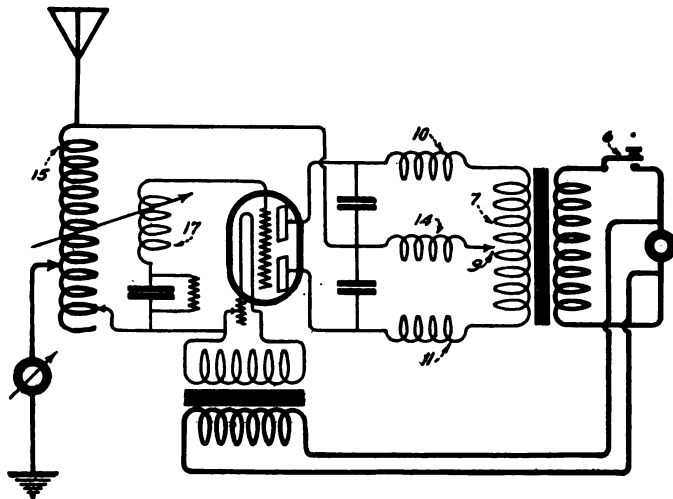

Figure 3—Circuit using a modified tube
Figure 3 shows a circuit in which a modified tube is used. A grid common to both anodes is now inserted and controls the electric current flowing to the operative anode. The figure illustrates a continuous wave transmitter which employs alternating current and a single tube as described. The rectified direct current passes through 15 to which a coil 17 is coupled. The result is that the tube will generate almost pure continuous waves without a separate rectifier. A tapping 9 is taken from the midpoint along 7, an alternative arrangement to using two secondaries. The air chokes 10, 14 and 11 protect the transformer. Signaling is accomplished by the key 6. The other details will be readily understood.